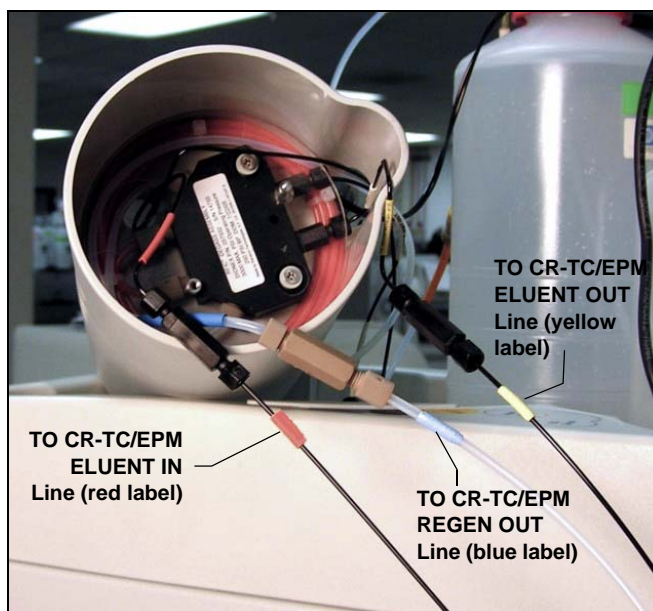

Figure 58. EPM Eluent and Regen Line Extensions
- a. Disconnect the **TO CR-TC ELUENT IN** line (red label) from the coupler that connects it to the **TO CR-TC ELUENT OUT** line (yellow label). Connect a 32 to 10-32 coupler to the end of the **TO CR-TC ELUENT IN** line and connect the 30 cm (12 in) length of black PEEK tubing (red labels) (P/N 064334) to the coupler (see Figure 58).